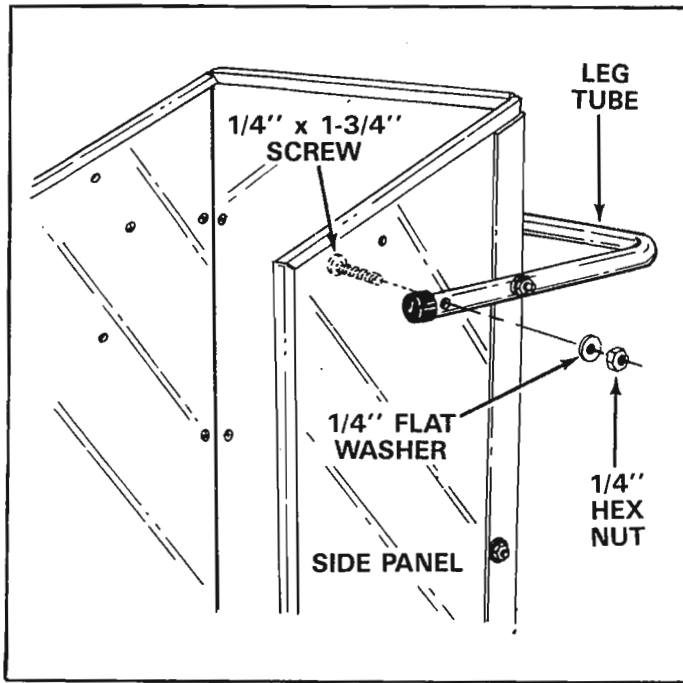
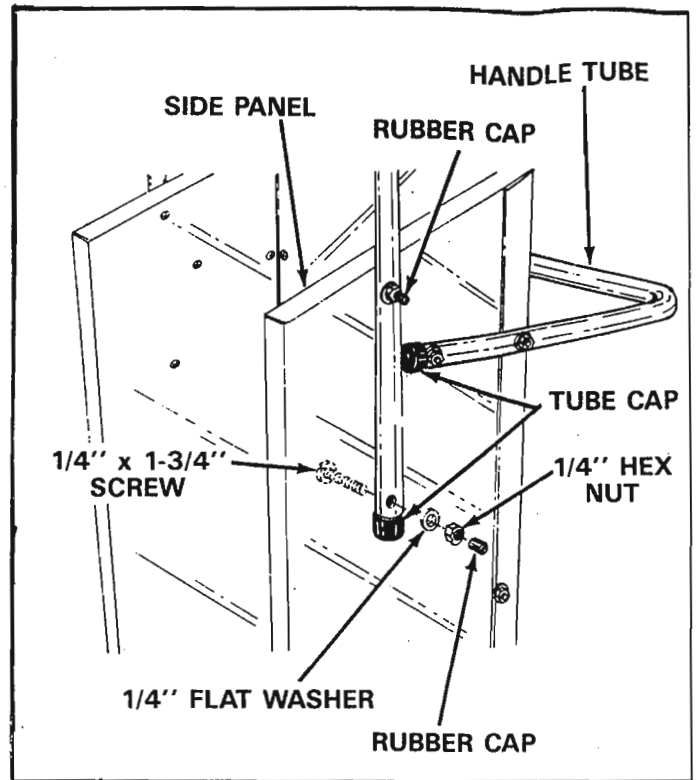

FIGURE 9
FIGURE 10
- Place tube caps on leg tube and handle as shown in figure 10. Stand cart up on its front end again and assemble the leg tube as shown in figure 9 using four 1/4" x 1-3/4" truss head screws through side panels and leg tube. Secure with flat washers and hex nuts. See figure 9.
- Place the handle tube over the side panels and line up the four holes. Assemble four 1/4" x 1-3/4" truss head screws through the side panels and handle. Secure with flat washers, hex nuts and cover threads with rubber caps. See figure 10.